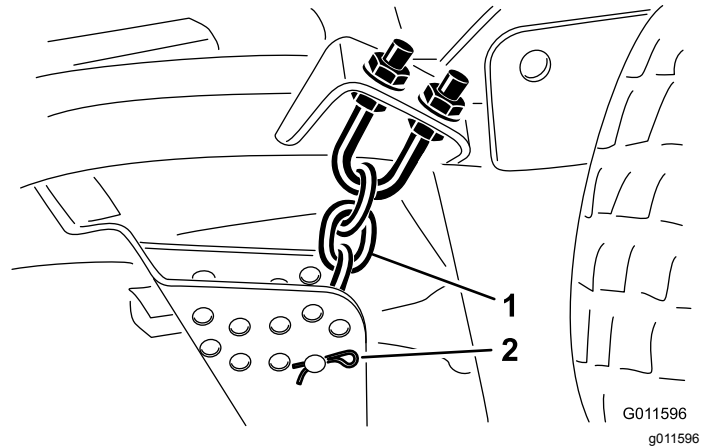

Figure 24
9. Remove the hairpin cotter and clevis pin securing the height-of-cut chains to the rear of the mower deck (Figure 24).